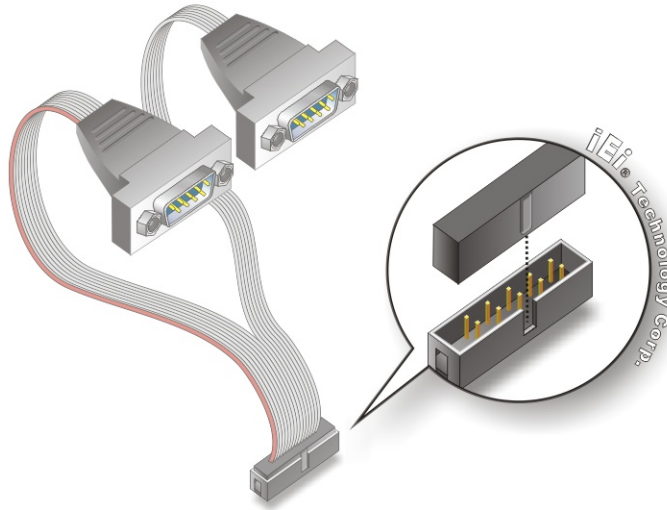

Figure 4-22: Dual Serial Port Connector Cable Connection
Step 3: Insert the cable connectors Once the cable connector is properly aligned with the COM2 serial port connector on the NANO-945GSE, connect the cable connector to the on-board connectors. See Figure 4-22.